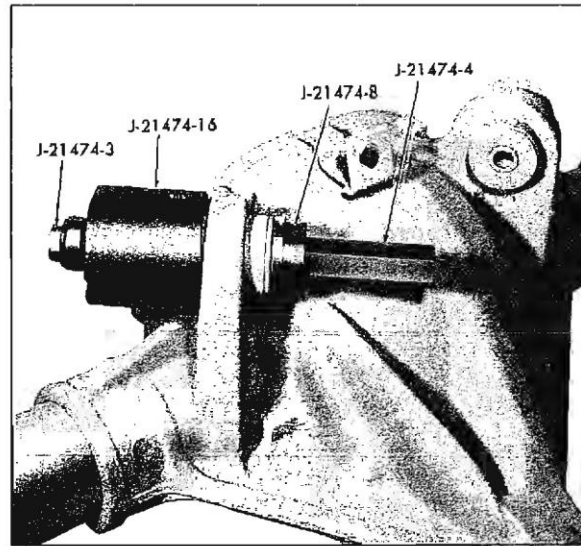

Fig. 3-30 Removing Rear Upper Control Arm Rear Bushing
2. Remove bushing from axle housing, using tool J-21474 as shown in Fig. 3-30.